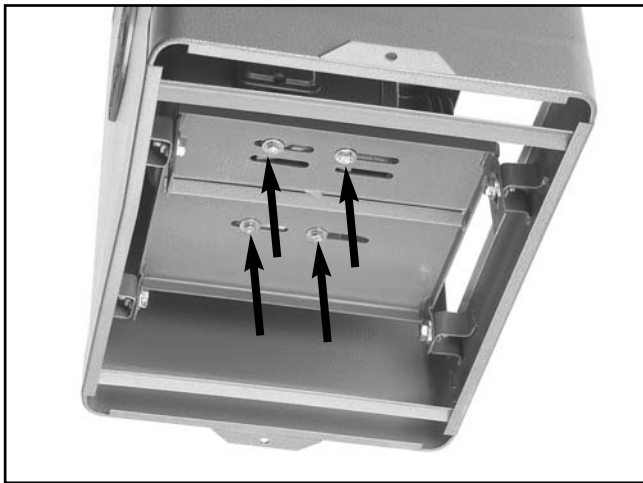

Figure 59. Motor mount bolts(shown underneath stand for clarity).
3. Loosen the motor mount bolts shown in **Figure 59**.